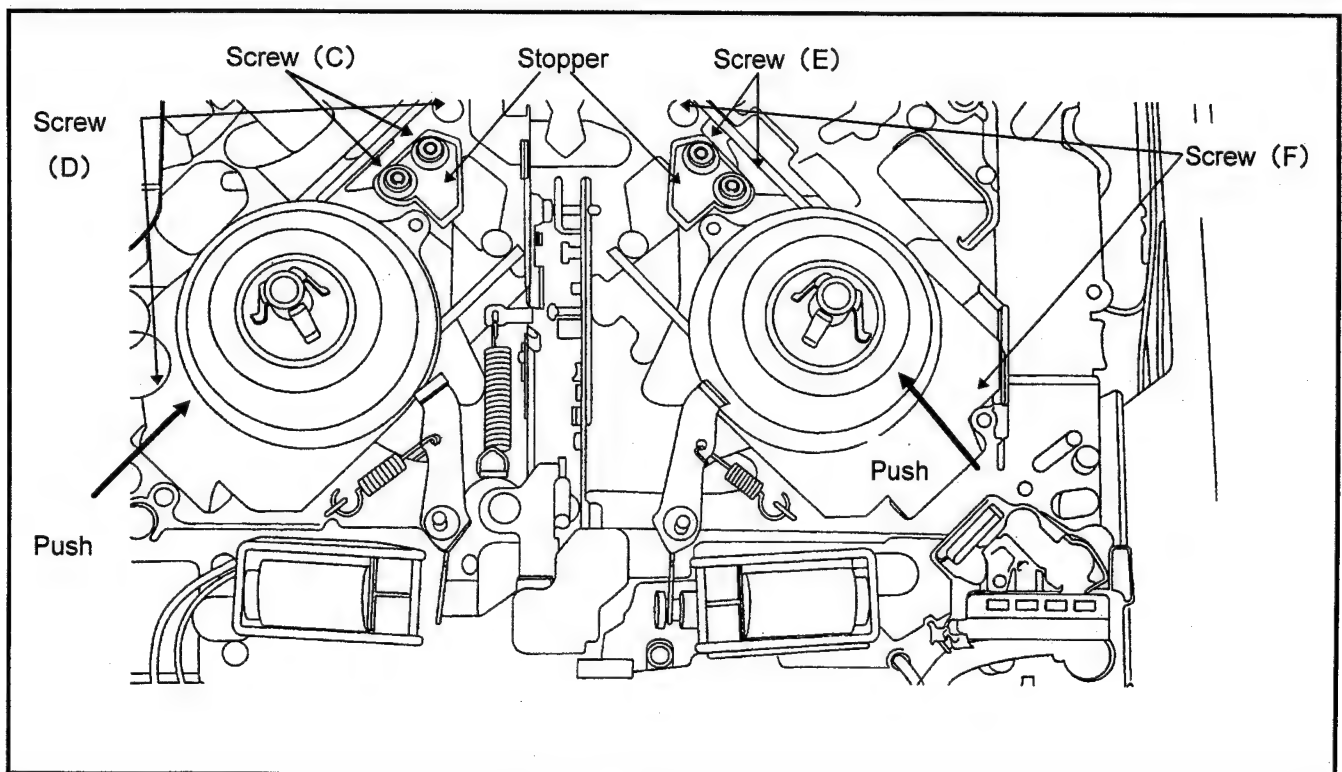

Fig. M8
3. Turn the Emergency Gear until S1 Post moved center loading position and remove the S5 Post (Refer to item 14).
5. Unscrew the 2 screws (C) to remove the Supply Reel Stopper as shown in Figure M8.
6. Push the Reel Table to middle position and unscrew the 2 screws (D) to remove the Supply Reel Rotor Unit as shown in Figure M8.
3. Unscrews the 2 screws (E) ,and then remove the Take Up Reel Stopper.
4. Push the Reel Table to middle position and unscrew the 2 screws (F) to remove the Take Up Reel Rotor Unit as shown in Figure M8.